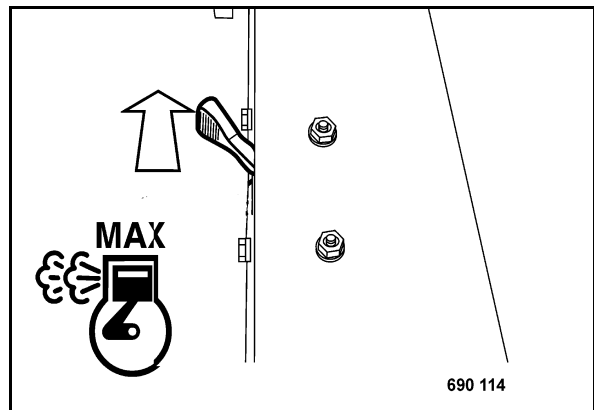

Fig. 24
- Set the throttle lever (Fig. 24) to position "MAX".